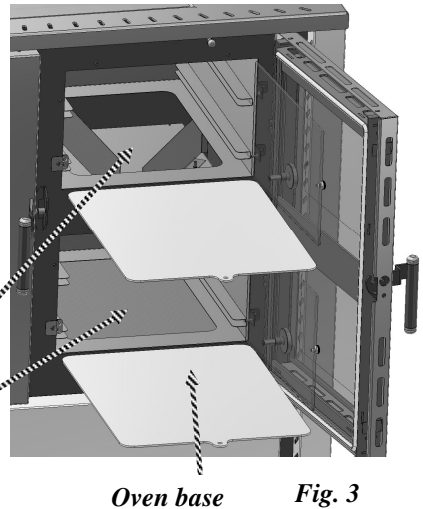

Fig. 3
UNDER OVEN FUME CONVEYER CLEANING (Fig.3)
- Once the cleaning operations have been finished re-assemble the top plate, paying attention to the correct assembly of the different parts. Attention to the positioning from the bent part upwards, see the image Fig.3.